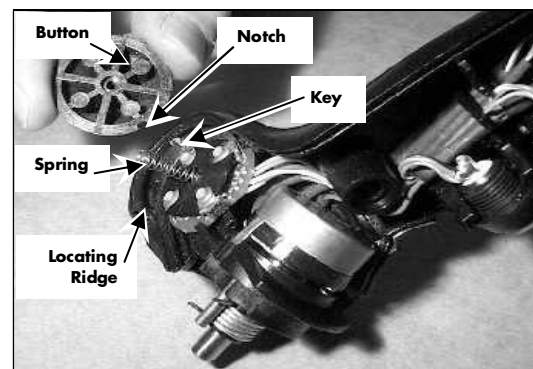

Figure 13: Tilt/Sideshift Button Installation
- Install the tilt/sideshift actuator, spring, and button. Move the button toward the lift/lower potentiometer until the button drops into the locating ridge. The button notch should engage in the key. Make sure the spring is fully engaged at both ends. See Figure 13.